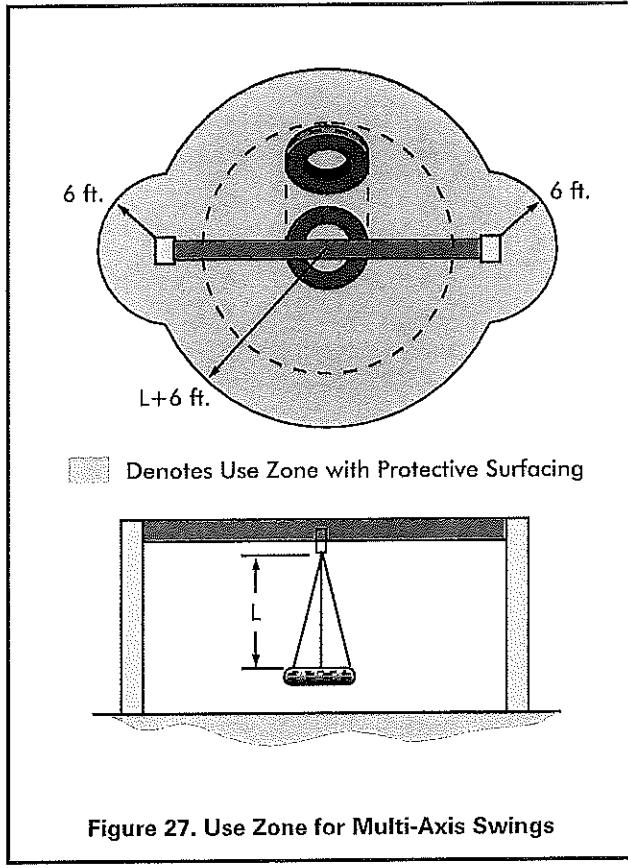

Figure 27. Use Zone for Multi-Axis Swings
- The use zone should extend in any direction from a point directly beneath the pivot point for a minimum distance of 6 feet plus the length of the suspending members (see Figure 27). This use zone should never overlap the use zone of any other equipment.